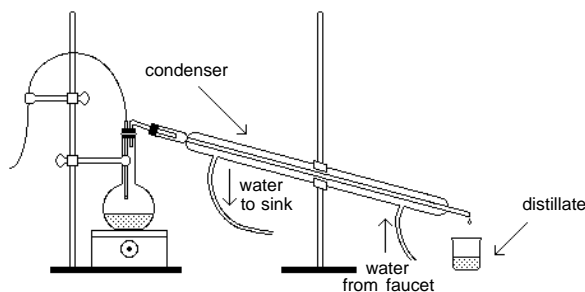

Figure 1
An example of a simple distillation is the separation of a solution of salt and water into two separate pure substances. When the salt water solution is heated to boiling, water vapor from the mixture reaches the condenser (see Figure 1) and the cold water circulating around the inside tube causes condensation of water vapor into droplets of liquid water. The liquid water is then collected at the lower end of the condenser. The non-volatile salt remains in the flask.
2. Assemble the distillation apparatus as shown in Figure 1. Do not begin heating until your teacher has checked your apparatus.